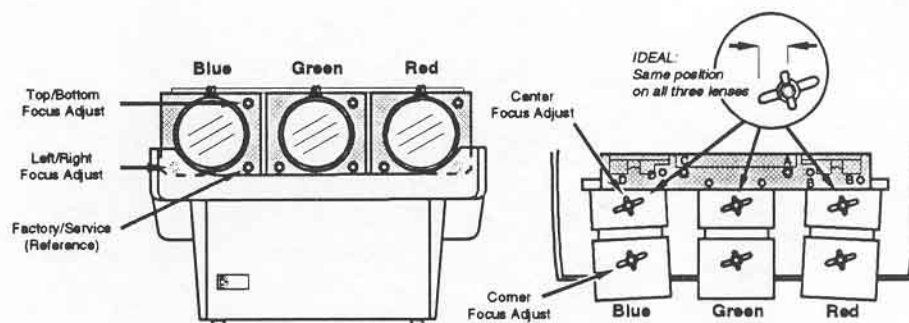

Figure 4-12. Mechanical Focus Adjustments
- e) Once the CRT is in place it will be necessary to do an optical focus. First make sure the projector is positioned at the throw distance and angle as it would normally be. Now adjust the top/bottom and side/side bolts so that approximately 3/4" of their threads are protruding. Display a crosshatch for this color and adjust the center focus control (see Figure 4-12) on the lens so that the crosshatch is slightly out of focus. Do the top/bottom and side/side focus adjustments to focus the lens. Now compare the adjustment position of the center focus adjust to that of the other lenses. If the others are in a different position, move the reference bolt (lower bolt) out then refocus top/bottom and side/side then see if the position is correct. Repeat until the center focus adjust is at the same relative position as the other two lenses.